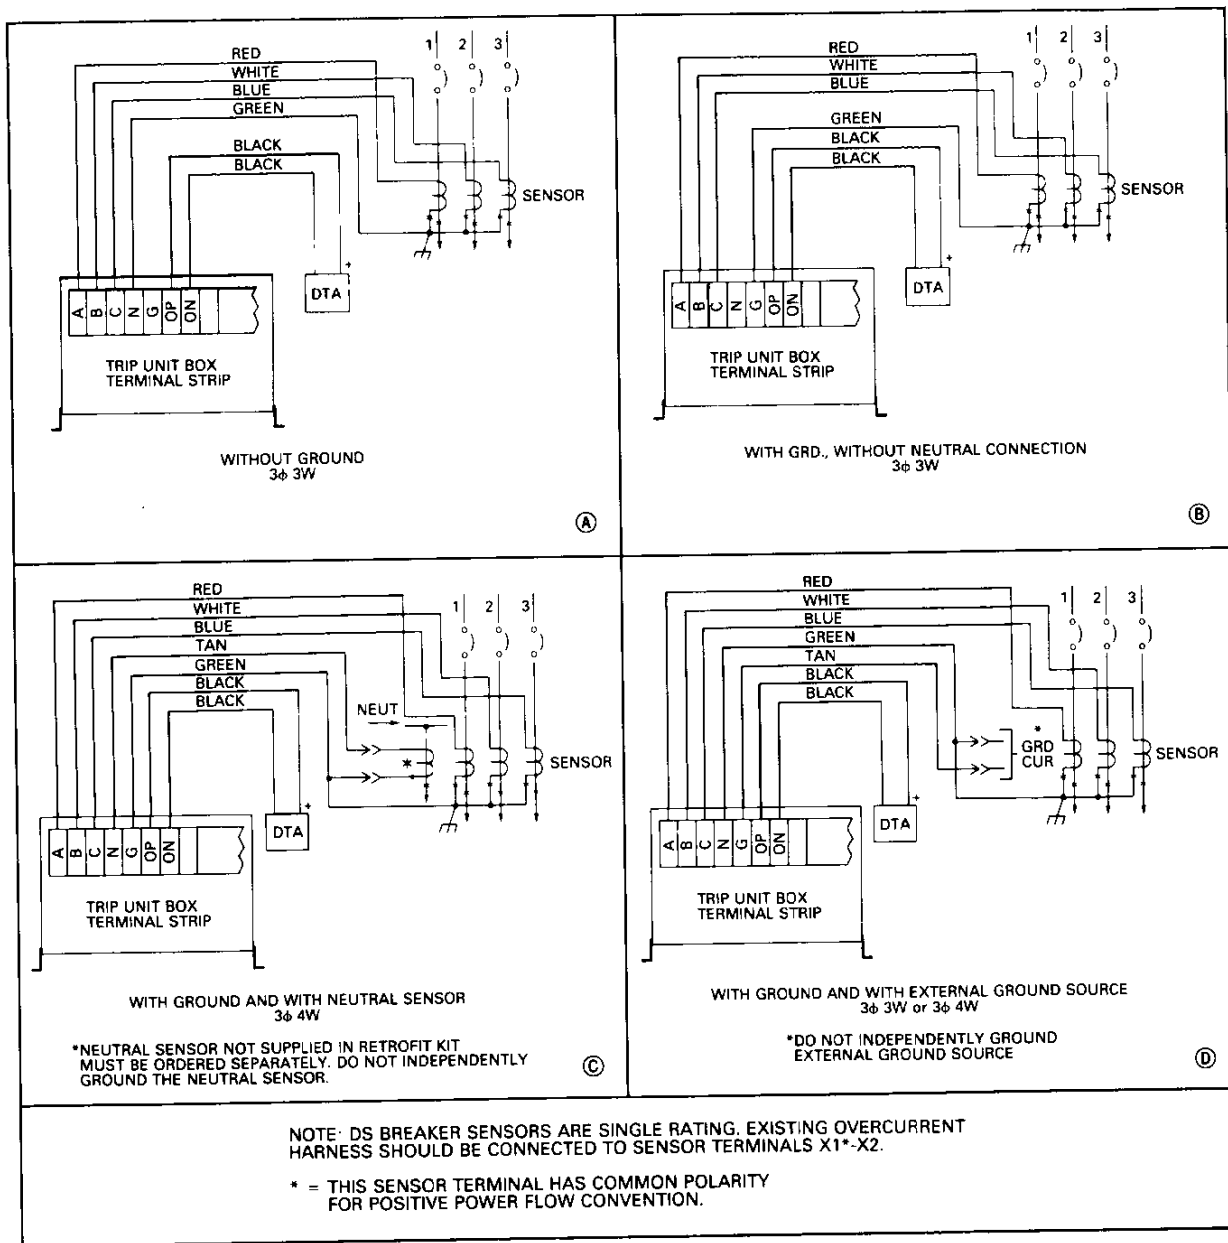

Fig. 9-2. Trip Unit Box Overcurrent Harness and Sensor Connection Diagrams
5. Familiarize yourself with the applicable breaker diagrams for your retrofit. Refer to the typical trip unit box overcurrent harness and sensor connection schemes shown in Fig. 9-2. Also refer to the applicable breaker interface diagram, Figs. 4-3, 5-3, 6-3, or 7-3.
2. Lay the overcurrent wiring harness into the Digitrip RMS Trip Box and slip the rubber grommet into the slot of the trip unit box. Transpose and connect all terminal leads as previously tagged (except terminals OP and ON) to the Trip Unit Box terminal strip leads per Fig. 9-2.
2. Transpose the overcurrent wiring harness from the existing sensors to the new sensor terminals per Fig. 9-2. For RMS 700 and 800 Kits, see Section 9-12 on positive power flow conventions.
1. Standard Power Flow Convention (power flow top to bottom): In most cases, the breaker primary (line side) is on the upper and the secondary (load side) is on the lower stud assemblies, when the breaker is racked into its designated switchgear cell. The trip unit will read positive power when the current flows from top to bottom, provided the overcurrent wiring harness is connected to the sensor terminal polarity shown in Fig. 9-2. Power flow in the opposite direction (bottom to top) will then read as negative power.
2. Non-Standard Convention (power flow bottom to top): In some cases, the breaker primary (line side) is on the lower and the secondary (load side) is on the upper stud assemblies, when the breaker is racked into its designated switchgear cell. The trip unit will read positive power when the current flows from bottom to top, provided the sensor overcurrent wiring harness is connected to the sensor terminal polarity opposite to that shown in Fig. 9-2. Power flow in the opposite direction (top to bottom) will then read as negative power.